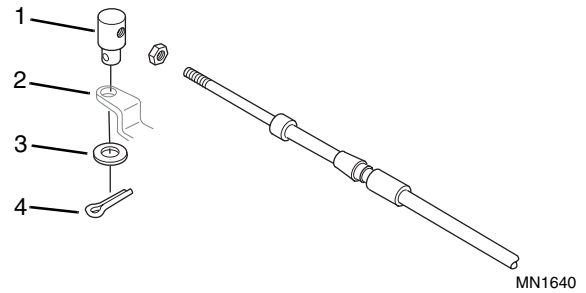

Figure 7-76 Throttle Cable Installation to Injection Pump
6. Once adjustment is correct, secure the cable rod end (Fig. 7-76, 1) to the injection pump throttle lever (2) using the flat washer (3) and cotter pin (4).